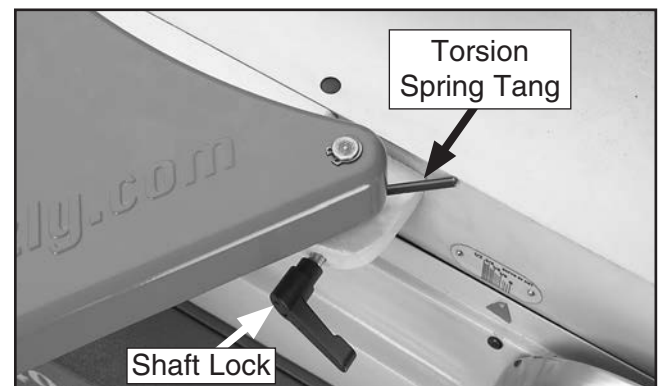

Figure 59. Guard mounted with spring tang in the correct position for proper return tension.
1. Loosen the shaft lock (**Figure 59**) and remove the cutterhead guard.
2. Wind the tang on the torsion spring clockwise a quarter turn, and slide the guard shaft into the casting so the spring tang points toward the main table but does not overlap it, as shown in **Figure 59**.